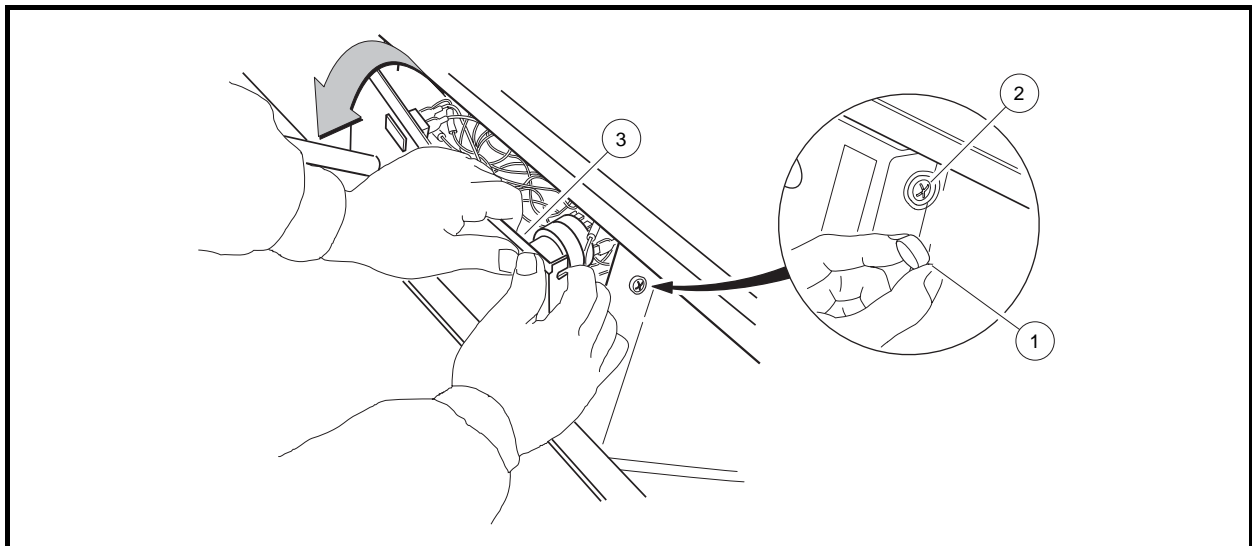

Figure 13-1 Dash Removal
2. Remove the center dash panel (**Figure 13-1, Page 13-1**).
- 2.1. Remove the plastic cap (1) covering the mounting screw (2) on each side of the center dash panel (3) (**Figure 13-1, Page 13-1**).
**NOTE:** Bending the top right corner of the center dash inward during removal will prevent the terminals (7) on the back of the key switch from touching the metal frame around the dash. **(Figure 13-1, Page 13-1)**
**NOTE:** Take care to prevent key switch terminals and wires from touching the metal frame around the dash. **(Figure 13-1, Page 13-1).**
**NOTE:** Take care to prevent key switch terminals and wires from touching the metal frame around the dash. (**Figure 13-1, Page 13-1**).
4. Press the locking tabs (11) on each end of switch and push switch out of case.